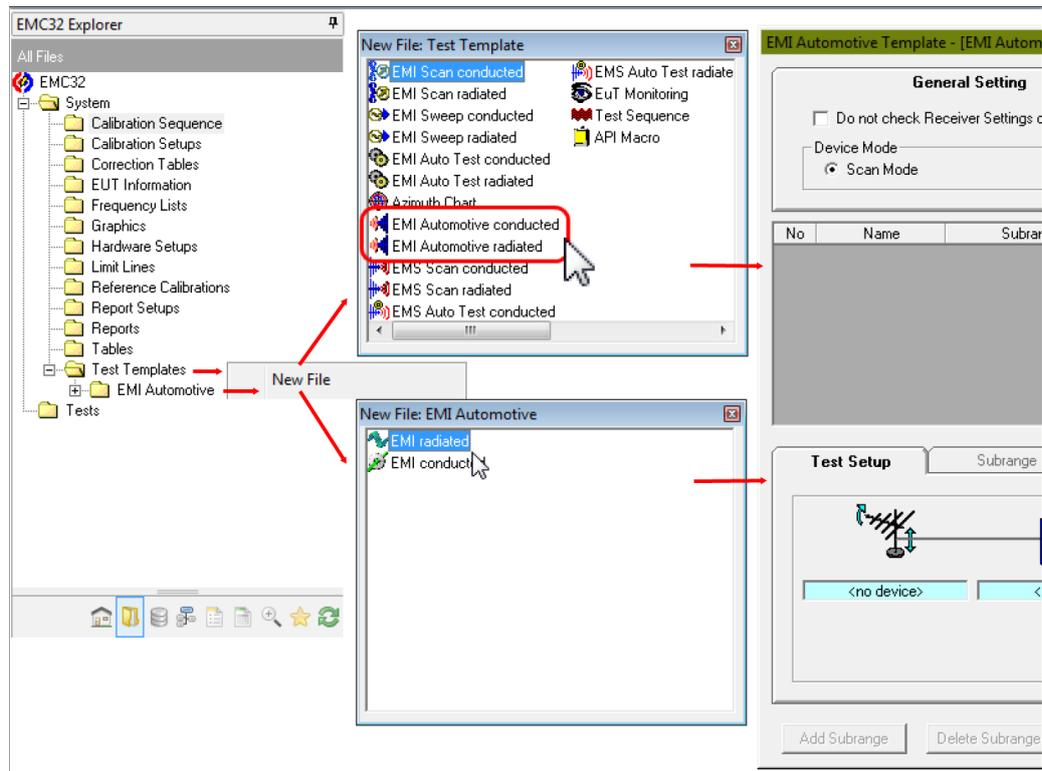

Figure 8: Two possibilities to create a new empty test template
1. Create a template from the main template folder “Test Templates” in Explorer, this is the only way to create template if the sub folder “EMI Automotive” exists not yet (top of Figure 8).
2. Create a template from the sub template folder “EMI Automotive” in Explorer (bottom of Figure 8).